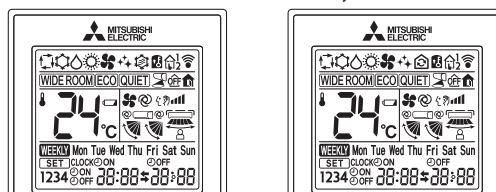

Figure 1
- ① While pressing both Operation select button and TEMP \oplus button on the remote controller at the same time, press RESET button.
- ② First, release RESET button. Hold down the other 2 buttons for another 3 seconds. Make sure that the indicators on the LCD screen shown in the right figure are all displayed. Then release the buttons. (Figure 1)